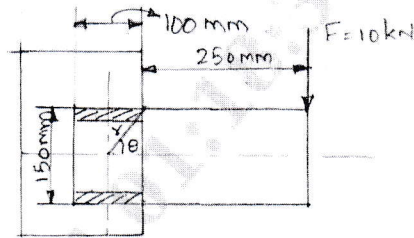

Fig. Q7 (b)
b. An eccentrically loaded weld is as shown in Fig. Q7 (b). Determine the size of the weld required.